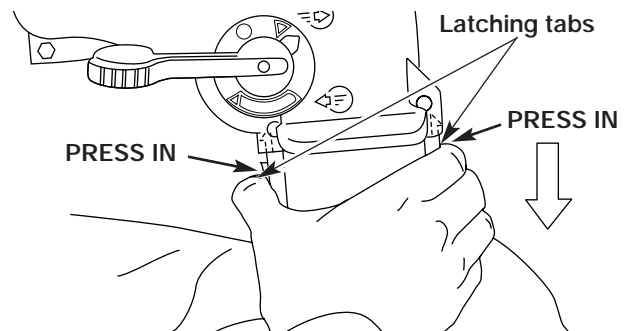

Fig. 19
1. While pressing the latching tabs on both sides of the vacuum bag tube, pull the vacuum bag down off the unit (Fig. 19).